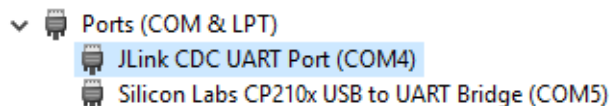

Figure 6. RSL10 EVB COM Port Number
5. Use the Windows Device Manager to find out the COM port number assigned to your RSL10 EVB, identified by the JLink CDC UART Port (COM4, as seen in Figure 6):